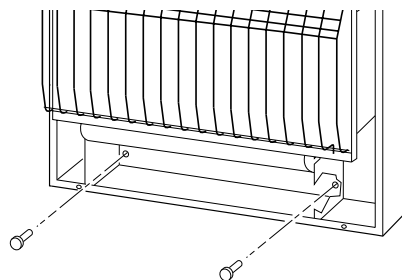

Figure 11 - Installing Bottom Mounting Screws
- Locate two bottom mounting holes. These holes are near bottom on back panel of heater (see Figure 11).